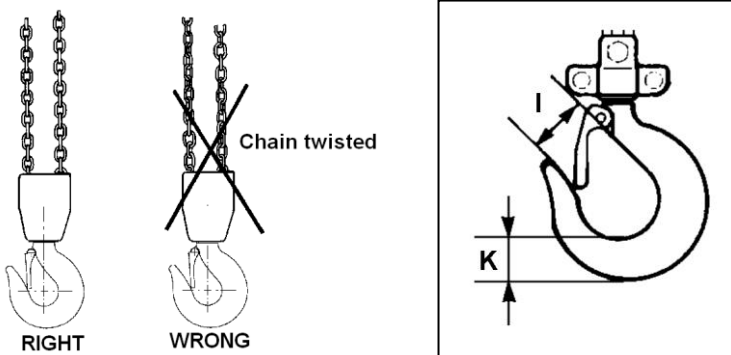

Fig 3 The chain must not be twisted
- The load chain must not be kinked or twisted. With two-fall or multi-fall chain blocks there is a risk of the chain twisting if the bottom hook assembly ends up looped through the chain sling – usually during refitting or moving the chain block between work stations. See Fig 3.